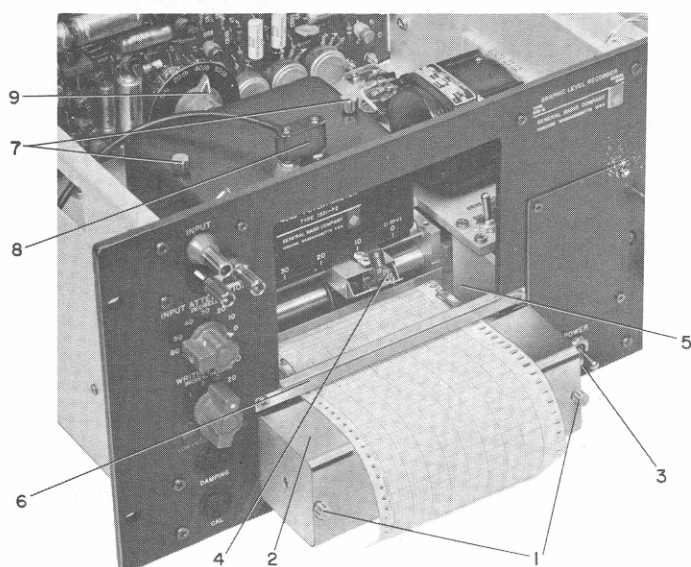
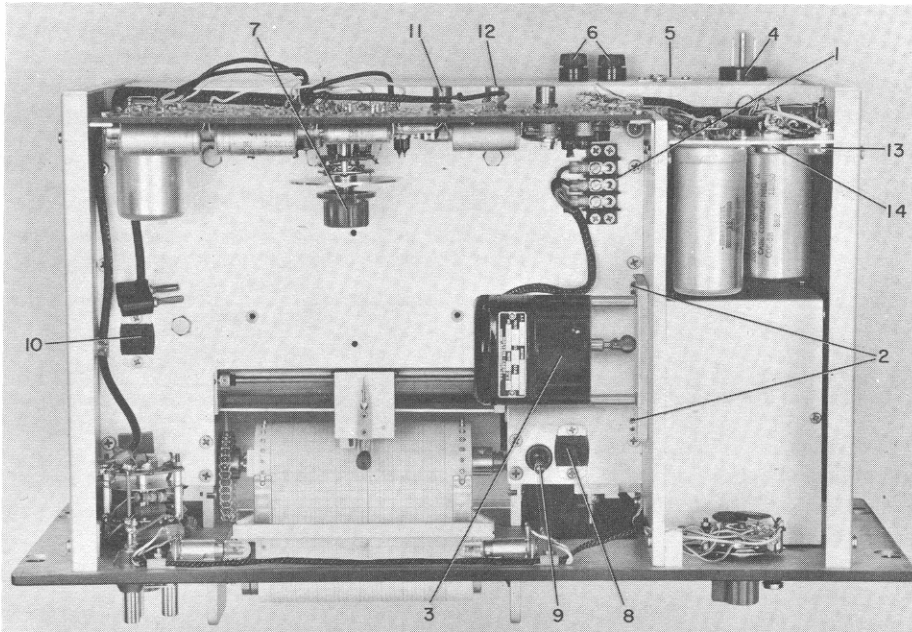

Figure 2.1. Front oblique view of recorder.
Figure 2.2. Top view of recorder
**2.1.2 PAPER LOADING.** (Refer to Figure 2.1). To load the recorder with paper, proceed as follows:
a. Remove the two thumb screws (1, Figure 2.1), and remove the paper cover (2).
b. Pull out the spring-loaded paper knob (3), and insert the roll of paper, with the loose end at the bottom, facing in toward the recorder. Press the right-hand paper hub to force the paper roll against the shoulder of the left-hand paper hub.
c. Grasp the pen (4) and swing it up, away from the drum.
f. Attach the paper cover (2) and fasten it with the two thumbscrews.
g. Move the paper along by turning the MANUAL SET knob, guiding the edge under the pen (4) and fingers
(5). The paper should go over the top of the paper cover and under the tear gate (6). It may be necessary to push down slightly on the paper cover.
All potentiometers can be installed without removal of the instrument from its case. When changing potentiometers, remove the unit to be replaced as follows: Remove the input plug (8, Figure 2.1) and loosen the captive thumbscrews (7) enough to free the potentiometer. Then remove the potentiometer by withdrawing it through the opening in the front panel. On linear potentiometers, a multipoint connector on the left-hand side must be unplugged before the potentiometer can be removed.
a. Set the potentiometer selector switch (9) to the position corresponding to the potentiometer being installed. The pins at the rear of the potentiometer case are guide pins that clear the selector switch only if it is set properly.
b. Move the input plug and cable out of the way, and insert the potentiometer through the panel opening. Two locating pins on the bottom of the potentiometer and mating holes in the shelf assure proper seating of the unit. When the potentiometer is in place (see Figure 2.1), tighten the thumbscrews (7) and connect the input plug (8). With a linear potentiometer, connect the multipoint plug in the mating socket (10, Figure 2.2).
c. Loosen the three screws holding the motor leads to the terminal strip (1, Figure 2.2), and slip the lugs out.
d. Remove the two motor-mounting screws and lock washers (2).
e. Remove the motor (3).
**2.1.6 POWER CORD.** Connect the power cord to the three-prong connector at the rear of the recorder (4, Figure 2.2). A small nameplate (5) to the right of this connector indicates the voltage and frequency for which the recorder is wired. A good ground connection should be made to the third conductor of the power cable to prevent 60-cycle pickup.
*On the Type 1564 Sound and Vibration Analyzer, the 1900-A Wave Analyzer and on recent models of the Type 1304-B Beat-Frequency Audio Generator, the frequency dial can be rotated through 360°. With these instruments, it is desirable to remove the Drive-Unit Microswitches so that the frequency dial can sweep through the entire 360°. To cut out the Microswitches, snap the toggle switch (9, Figure 2.2) toward the rear of the instrument.*